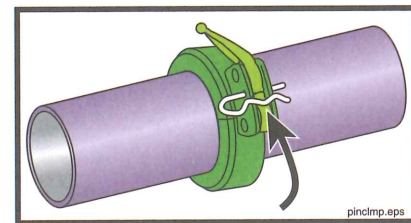

Figure 37
12.3 **⚠ WARNING** Pins should be used on all delivery system clamps. Clamps that will hang over workers, and clamps used on system that will be dragged shall be pinned (Figure 37).